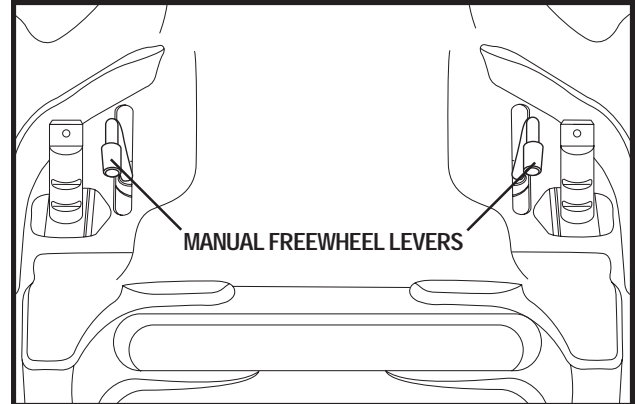

Figure 9. Drive Engaged (Dual Levers)
2. Turn the manual freewheel levers inward to engage the drive motors. See figure 9.